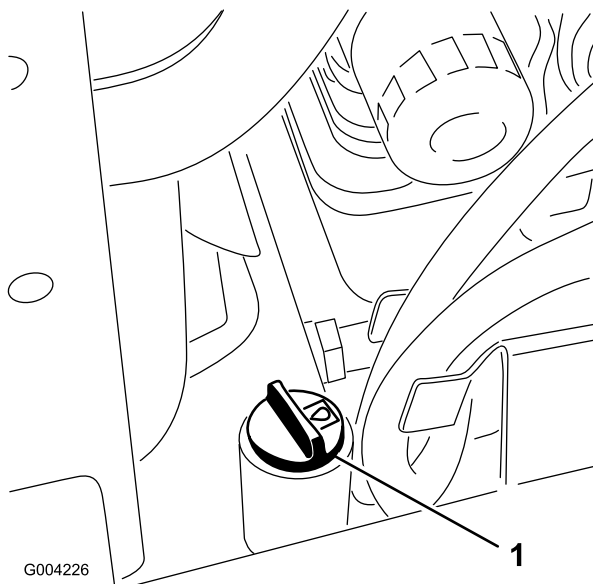

Figure 17
5. Clean the area around the filler neck of the hydraulic tank (Figure 17).